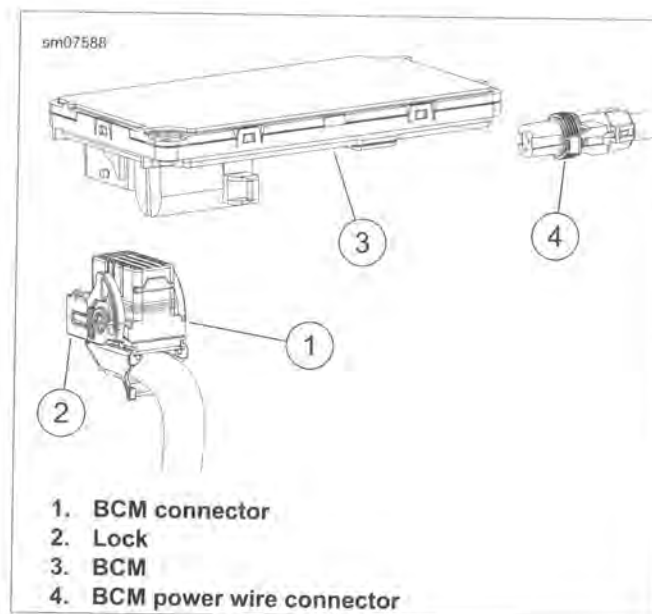

Figure 7-3. BCM
5. See Figure 7-3. Remove BCM power wire connector (4).
6. Push lock latch and rotate lock (2) until a click is heard. Remove BCM connector (1).
1. See Figure 7-3. Install BCM connector and rotate lock to secure.